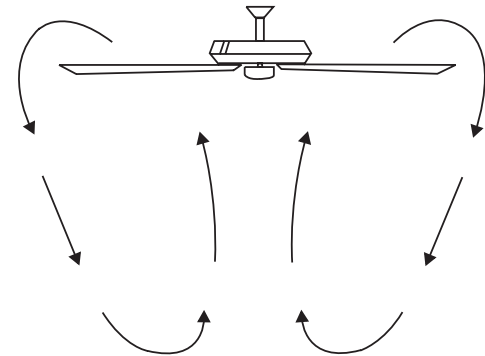

Fig. 21
**Cool weather** - Reverse (clockwise) An upward airflow moves warm air off the ceiling area as shown in Fig. 21. This allows you to set your heating unit on a cooler setting without affecting your comfort.